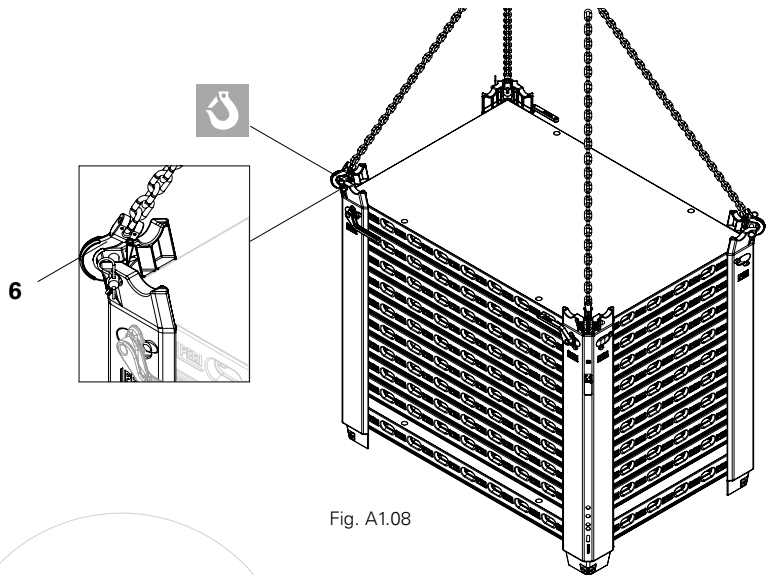

Fig. A1.08
If 2 or more stacks are placed on top of each other, secure the top panel on each stacking device by means of 2 DUO couplers (21). (Fig. A1.08)